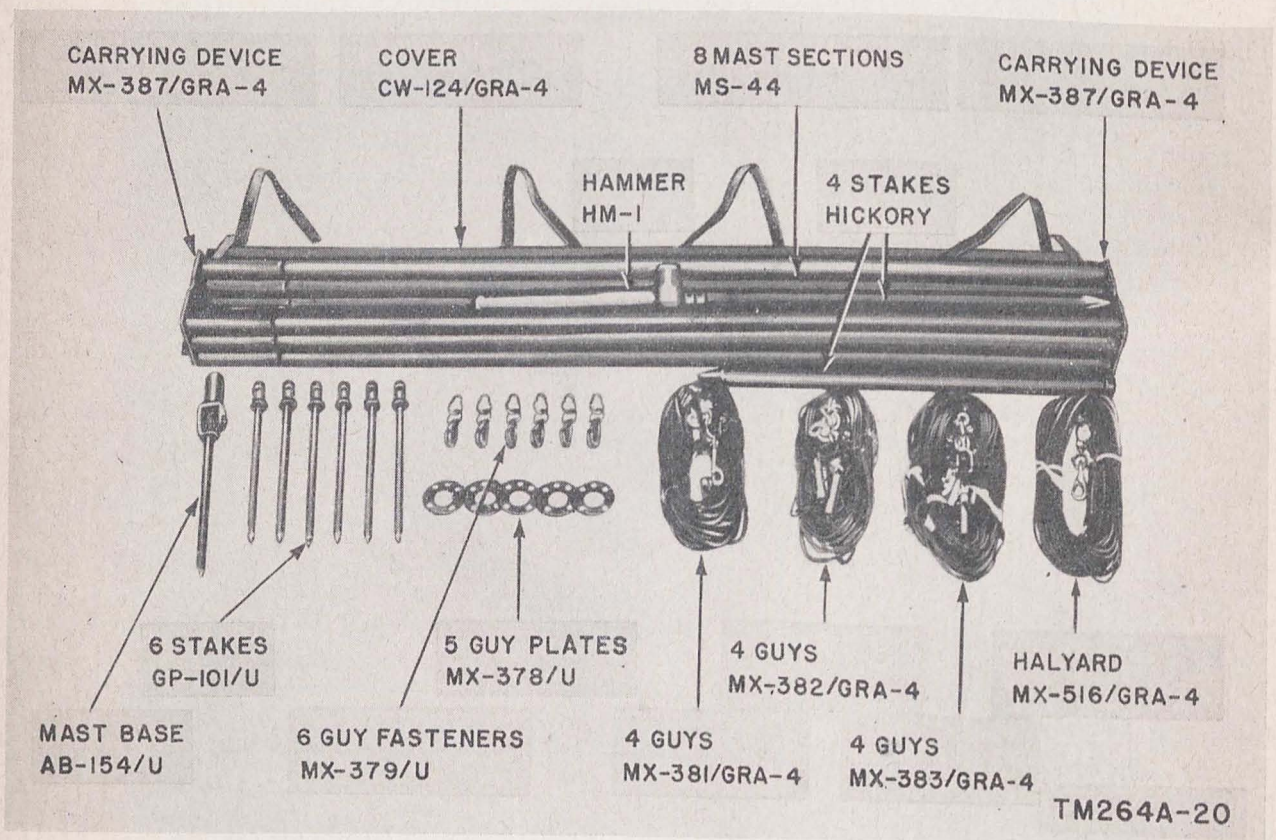

Figure 19. Mast AB-155A/U, components.
- (1) A single half-wave doublet antenna is used for transmitting. The antenna wire is cut to the length required for the frequency of transmission. At lower frequencies (2 to 4 mc), the wire is supported by three antenna supports approximately 50 feet high. At higher frequencies (4 to 18 mc), the length of the antenna is short enough to omit the center mast, and only two Antenna Supports AB-38B/CR are used. Each mast is an eight-section assembly, pivot-supported at the base. When properly adjusted and guyed, it will maintain a fixed vertical position. This mast is designed to support a 140-pound antenna under conditions of  $\frac{1}{2}$ -inch ice load and a 70-mile-per-hour wind. A pulley at the top of the mast and a halyard are used for raising and lowering the antenna.
- (2) Antenna Kit MX-852/MRC-2 is used for constructing a rhombic transmitting antenna in the 2- to 18-mc range. A rhombic antenna constructed from this kit gives high signal gain in one direction and substantially improves communication at locations where the doublet transmitting antenna does not provide sufficient signal strength.
- b. *Receiving Antenna.* Two doublet receiving antennas, the same length as the transmitting antenna, are used and are supported 40 feet in height by three Masts AB-155A/U. At the higher frequencies (4 to 18 mc) where shorter wire lengths are required, two masts are used to support each doublet. The mast equipment for the erection of two receiving antennas consists of the necessary components for six 40-foot masts (three masts to each receiving antenna). The equipment for each mast (fig. 19) consists essentially of eight tubular Mast Sections MS-44 which can be fitted together easily, a mast base, rope guys, the necessary stakes to fasten the guys to the ground, a hammer for driving the